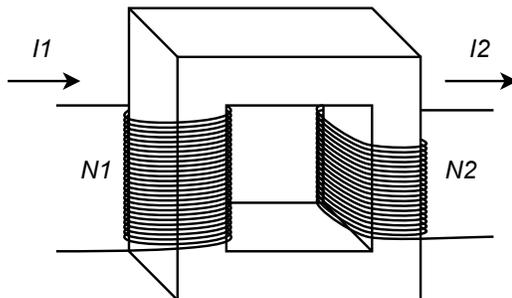

Figure 10.3
9. A transformer is shown in Figure 10.3, assume the cross section is 5 cm by 5 cm. The core is sheet steel with a path length of 20 cm.  $N1$  is 500 turns and  $N2$  is 200 turns. Determine the secondary current ( $I2$ ) if a primary current ( $I1$ ) of 1 amp establishes a flux of  $1.5E-3$  webers.